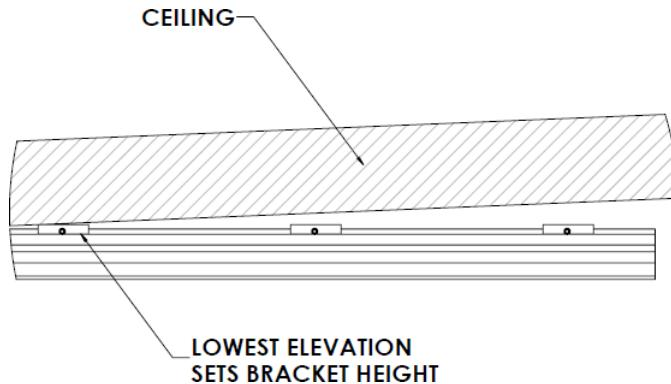

Figure 83: **Lowest Elevation Point Where the Ceiling Brackets Will Be Installed**
- For super track systems, project the line for the fixed gate track bracket height 4 1/4" below the gate side and non-gate-side parallel track brackets (see Figure 83).
- For TrackPlus systems, project the line for the fixed gate track bracket height 7 3/16" below the gate side and non-gate-side parallel track brackets (see Figure 83).